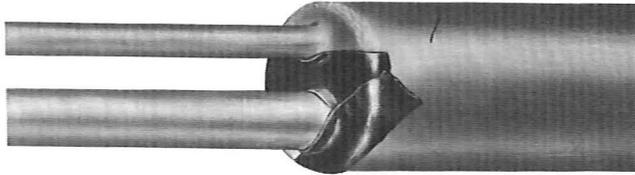

Fig. 14—Taping Multiple Joint
3.09 On multiple joints, place a strip of tape in the crotch between the two cables. Then cover the end plate or beat-in as shown in Fig. 14.